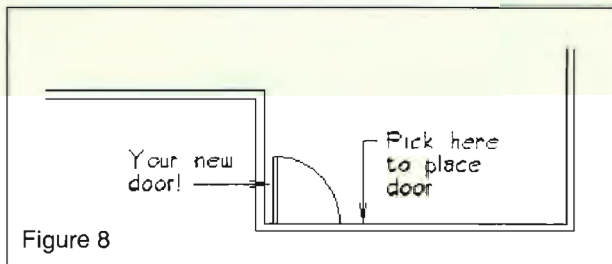

Figure 8
9. Move your cursor out so that a handle is shown. With Orthomode ON, align the door against the wall and pick, as shown in Figure 8. The door will appear.